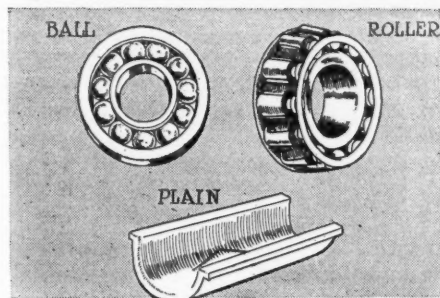

FIG. 3—BALL, ROLLER AND PLAIN BEARINGS
castings of two cylinders each. In the block casting all the cylinders are made in a single casting. This is often referred to as an integral casting. The word separate is used to show that the cylinders have been cast separately. A four-cylinder motor with such cylinders would have four cylinders that are removable one at a time, whereas in the block casting all must be removed. The two-cylinder opposed type, Fig. 3, always has cylinders cast separately.
**Bearings**—The plain bearing is in the majority of cases used in the motor as a means of supporting the crankshaft and also for the connecting rod ends. The specification tables do not mention motor bearings but it may be taken that the greater percentage of these are of the plain type shown in Fig 3. They are made of babbitt metal, Parsons white brass, phosphor bronze, or a combination of one or more of these soft metals. The roller bearings shown in Fig. 3 are used mainly in the gearset. As will be noticed in the illustration, a number of small rollers revolve upon their own axes. There are numerous types of roller bearing, but the fundamental principles in each are the same. The other type of bearing, the ball, is shown in the illustration in its common form. The ball thrust bearing has a